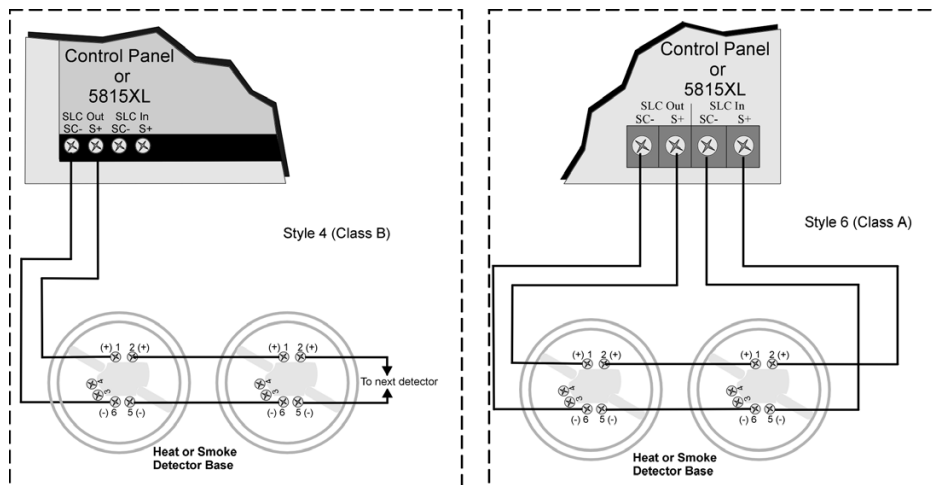

Figure 7-6 Heat or Smoke Detector Connection to the FACP
1. Wire device bases as shown in Figure 7-6.